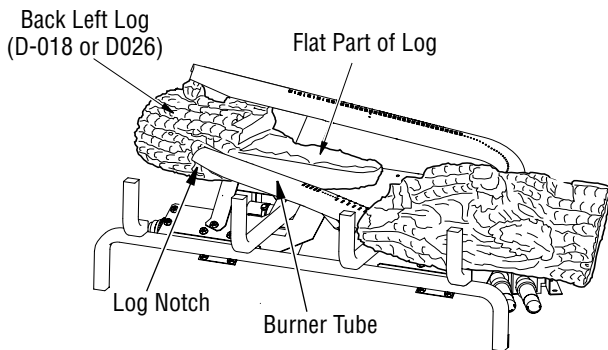

Figure 19 - Installing Back Left Log
2. Find the back left log (LMF30GTA/B or LMF30MOA/B models: D-018, LMF36GTA/B or LMF36MOA/B models: D-026). See **Figures 19, 19A, and 19B**. **Figure 19A** shows how the log must fit against the end of the burner. **Figure 19B** shows how the notch in log fits against the vertical portion of the burner tube. Place this log on the base assembly by inserting it from the left side as shown in **Figure 19**. You will need to twist the log slightly to get it to fit against the burners properly. It will rest even with the back edge of the pan.